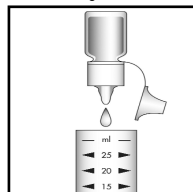

Figure 2
2. Add 2 drops of A-1500 Stabilizer Solution (fig. 2). Stir to mix the contents of the cup.